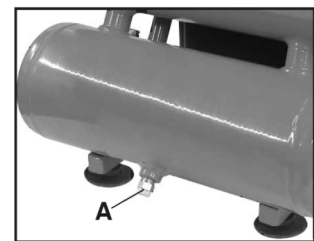

FIGURE 5
TANK PRESSURE GAUGE (C) FIG. 5
DRAIN VALVE (A) FIG. 5
- 5) Drain water from air tank. Turn drain valve (A) Fig. 5 counterclockwise to open.